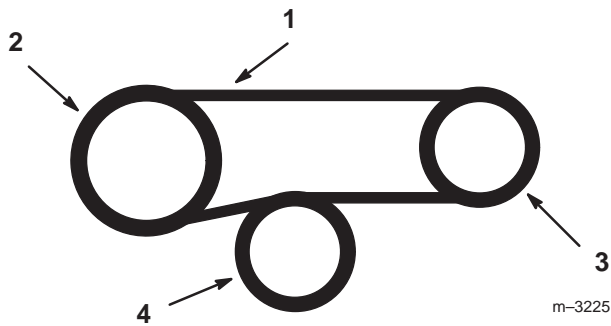

Figure 31
4. Remove belts over clutch (Fig. 31).
5. Install new belts over clutch. Align clutch hub key with crankshaft keyway and notch with stop bracket. Slide clutch onto crankshaft (Fig. 31).
8. Route belts around clutch and gearbox pulleys and above spring loaded idler (Fig. 31).